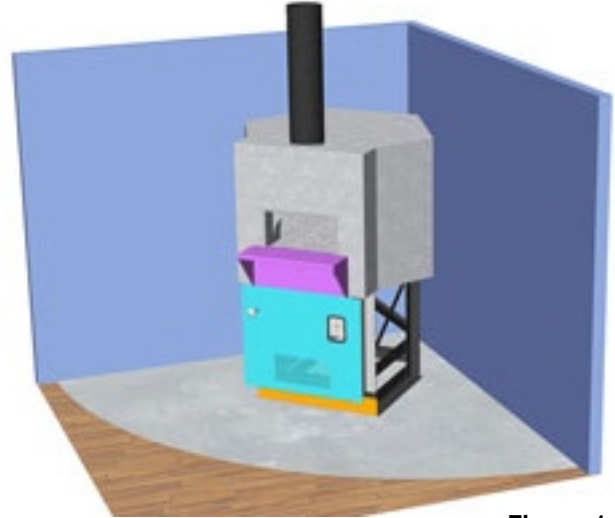

Figure 1.2
**Figure 1.2** Mount the Service Panel, Toe Kick and optional Mantle according to the instructions in the installation manual. Please note the location of the Toe Kick, it ships unattached and is installed at a small offset from the Service Panel to maintain room for combustion air. See the **Airflow Detail** on **page 7**.